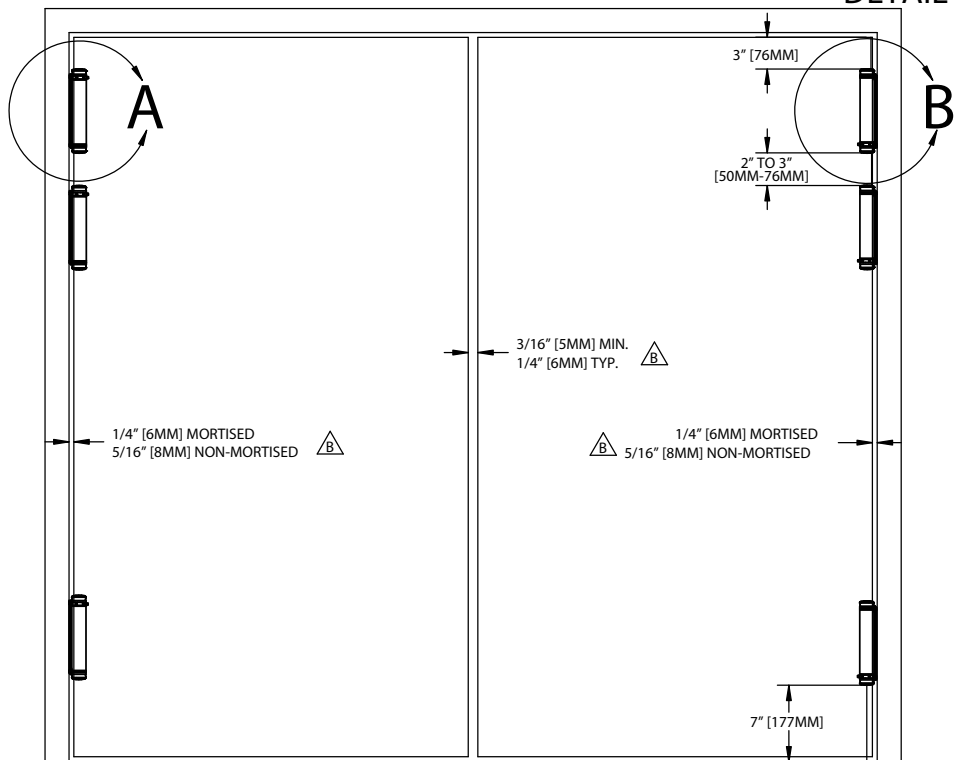

FIG. 2
4. THE HINGES SHOULD BE MOUNTED AT THE HEIGHT LOCATIONS DESIGNATED IN FIG. 2.